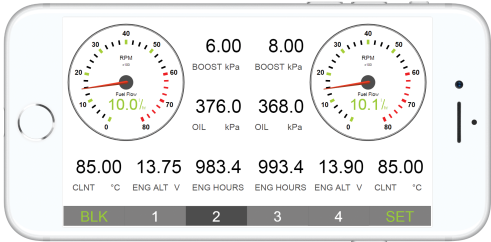

Figure 11. Built-in web gauges (Apple iPhone)
- The second page (Figure 11) is configured for twin engine monitoring, featuring circular tachometers and text data bars for engine temperature and fuel rate.
Most autopilots require manufacturer-specific messages to activate TRACK mode and may need proprietary commands during navigation, which typically limits their compatibility to the same manufacturer's MFD and control head. However, starting with firmware version 1.70, the Gateway supports direct control of Yacht Devices' YDAP-04 and Raymarine SeaTalk NG autopilots through Web Gauges (see Figure 11).